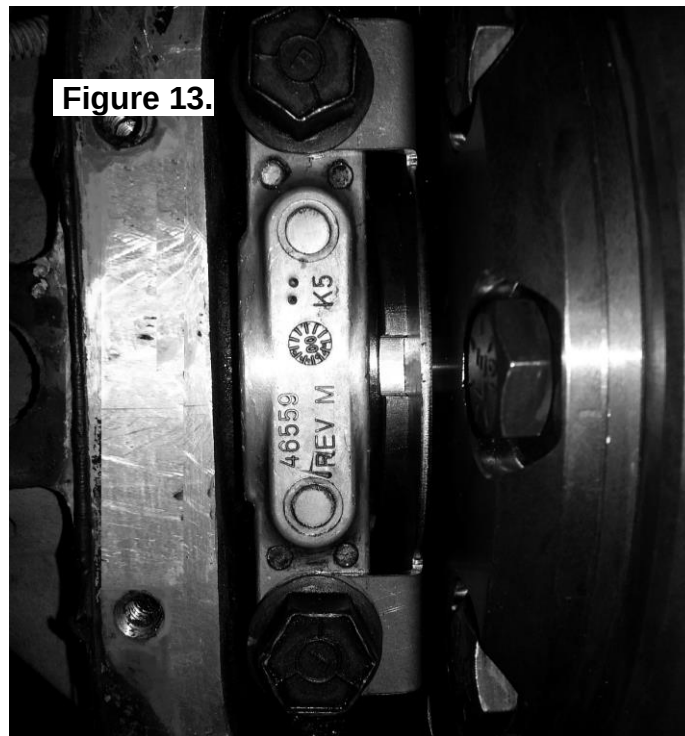

Figure 13.
- ☐ Slide the seal housing bracket into position from the right hand side of the tube and match the lip of the bracket to the slot on the seal housing (Figure 13.).
- ☐ Tighten the flange side bearing cap bolts with the seal housing bracket in place (Figure 13.).